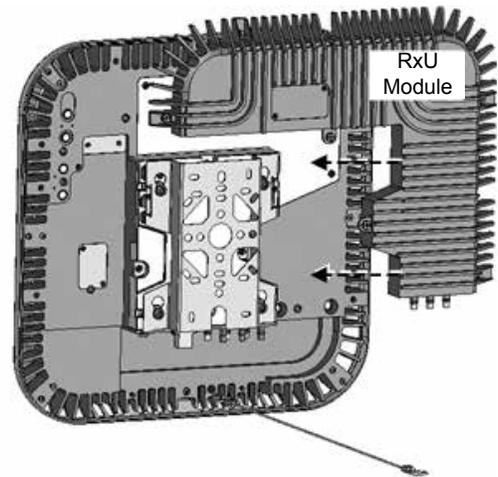

Figure 2. RxU Module Assembly
- Step 3:** Plug the RxU in to the right side of the RAU as indicated in Figure 2. RxU and RAU interface ports should face the same direction.